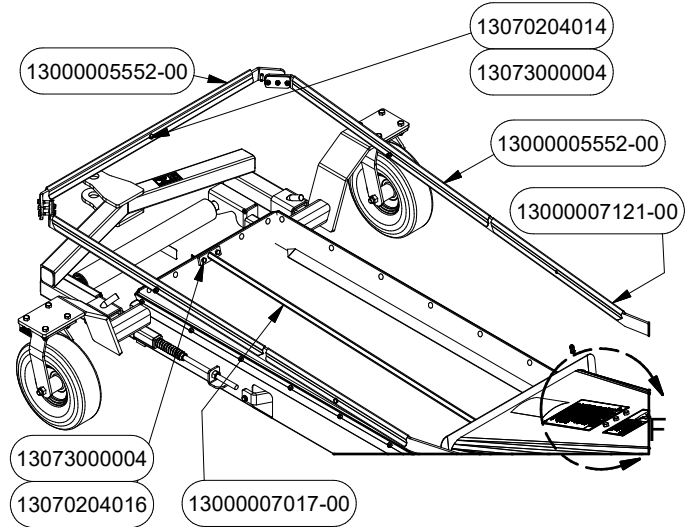

FIGURE 14
12. Fasten belt depressor PN# 7017 to the end of the hopper on the jump using bolts PN# 13070204016 and nuts PN# 13073000004. See Figure 14. Slide the opposite end of the belt depressor in to the belt depressor guide PN# 6739 and fasten guide to the inside of jump with bolts PN# 130702050012 and nuts PN# 130730000005. See Detail F.
13. Place one 30" hopper clip PN# 5552 on each of the front, LH and RH hopper hoops as well as one 20" hopper clip PN# 7121 on each of the LH and RH hopper hoops. Fasten each hopper clip with one bolt PN# 13070204014 and nut PN# 13073000004. See Figure 14.